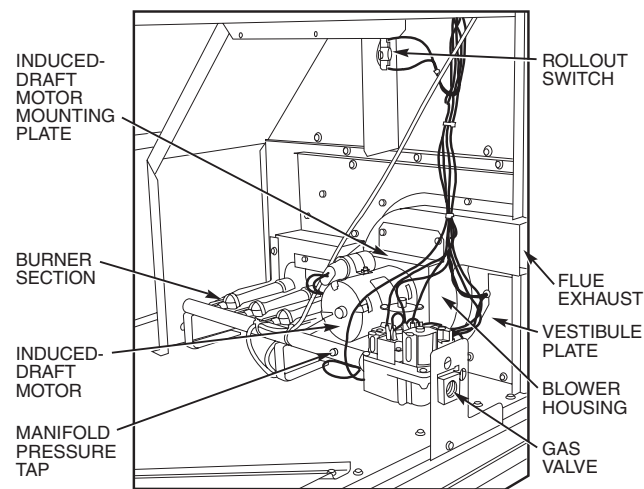

Fig. 53 — Burner Section Details
2. Remove the 7 screws that attach induced-draft motor housing to vestibule plate (Fig. 53).
7. Remove the 2 screws that attach the burner rack to the vestibule plate (Fig. 53).